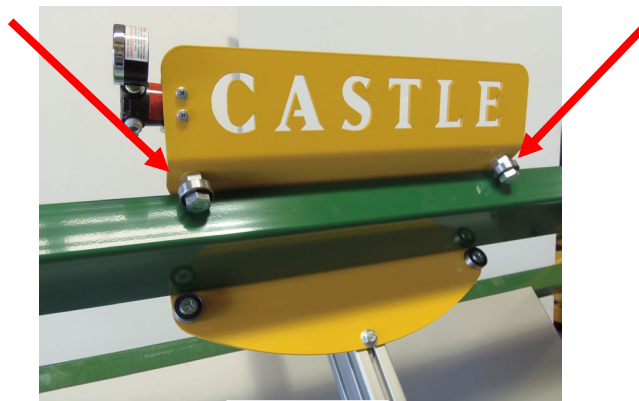

Fig 4
3. Loosen the 2 upper arm bracket bearings on the top of the beam. (Fig 4)